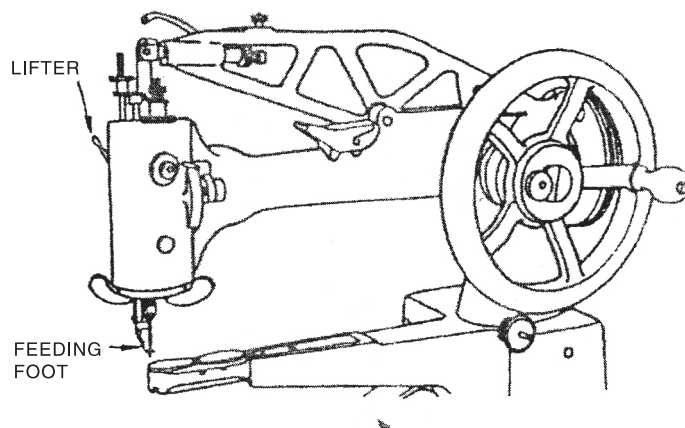
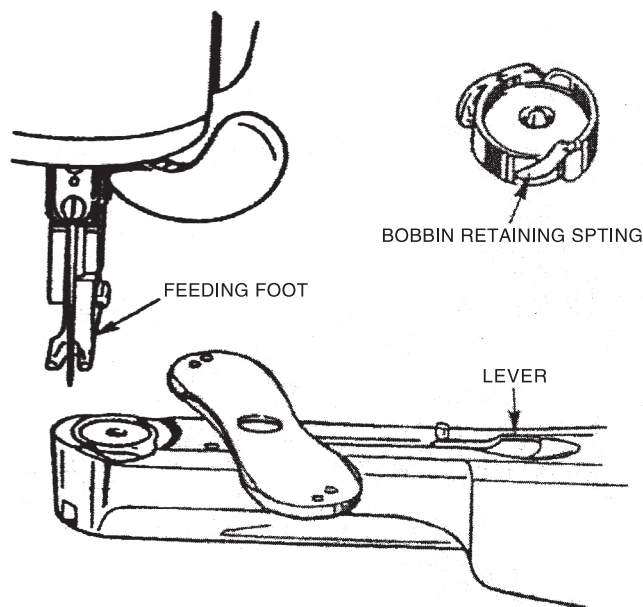

Fig.4
Fig.7
To oil shuttle race, raise needle bar to its highest point and lift feeding foot shown in Fig.4 by moving lifter upward.
给旋梭部位加油时，将针杆提高至最高点，且提起压脚（按图4所示抬起压脚提升杠杆）。
- 1.Raise feeding foot shown in Fig.4 by moving lifter upward.
- 1.按图4所示向上抬起压脚。
Turn shuttle over and the bobbin will drop out. NOTE: For 2972 machine, move bobbin retaining spring shown in Fig.7 outward before taking out the bobbin.
将针杆提高至最高点，且提起图7所示的压脚（按图4所示抬起压脚提升杠杆）。
向下按图7所示针板固定杠杆，并按图示旋转针板。
注意：对于2972，将梭芯取出前需将图7所示的梭皮松开。